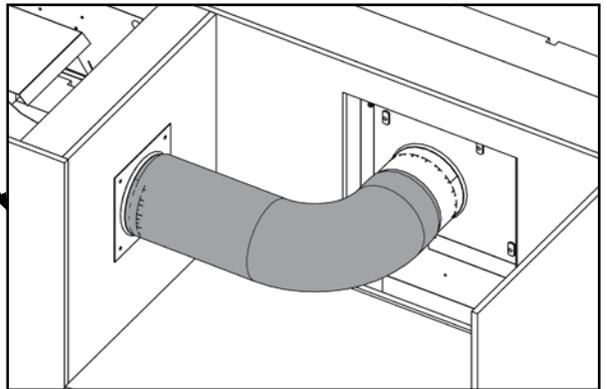

Fig. 3
3. Install 6” ducting (not supplied) from the appliance enclosure to the blower housing assembly (**Fig. 3**).